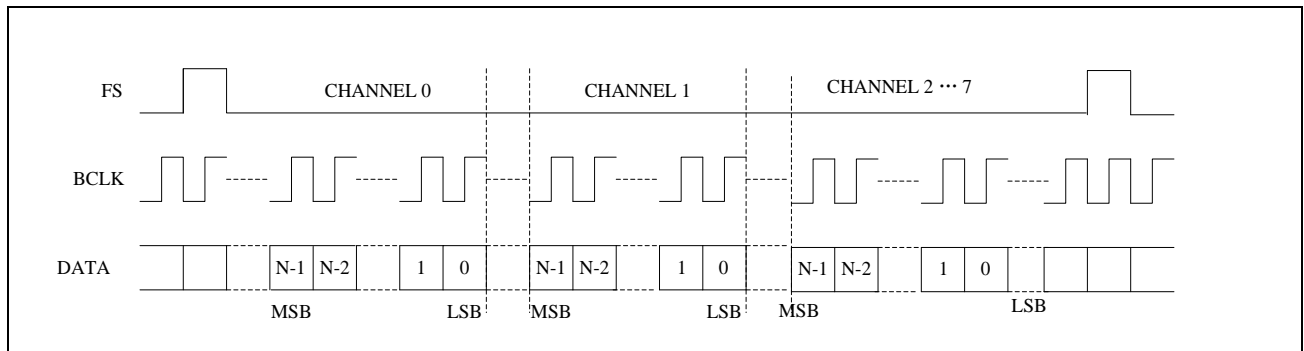

Figure 27 PCM Time Slot Audio Data
Normally, the DAC data is clocked immediately after the Frame Sync (FS); however, in PCM Time Slot Mode, the audio data can be delayed by setting **LEFT_TIME_SLOT TSLOT_L0 REG0XF[9:0]** and **RIGHT_TIME_SLOT TSLOT_R0 REG0X10[9:0]** for the left and right channels, respectively. **I2S_PCM_CTRL2 PCM_TS_EN0 REG0XE[10]** needs to be set to 1. These delays can be seen before the MSB in **Figure 27**.